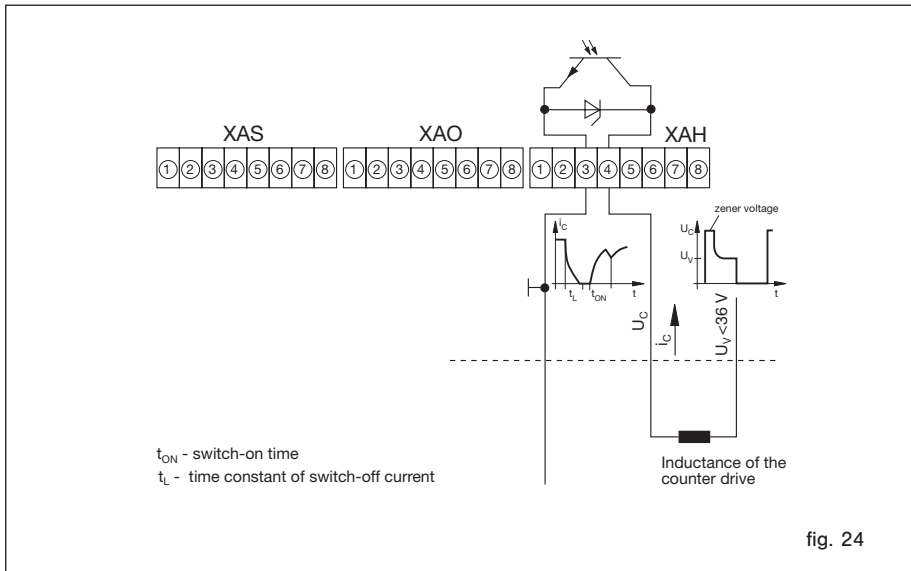

fig. 24
**Electromechanical pulse counter (fig. 24)**